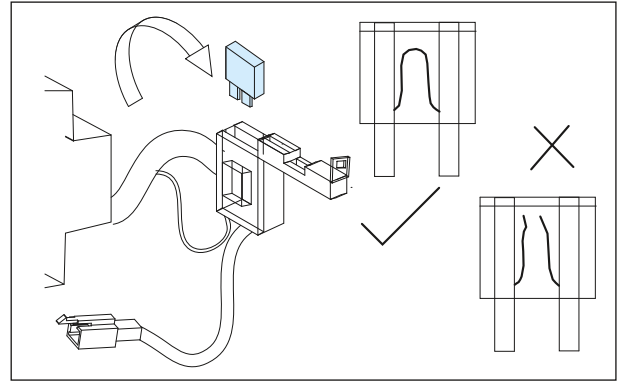

Fig. 6.5
- When a fuse blows, always investigate the cause, correct it and then replace the fuse. (Fig. 6.5)